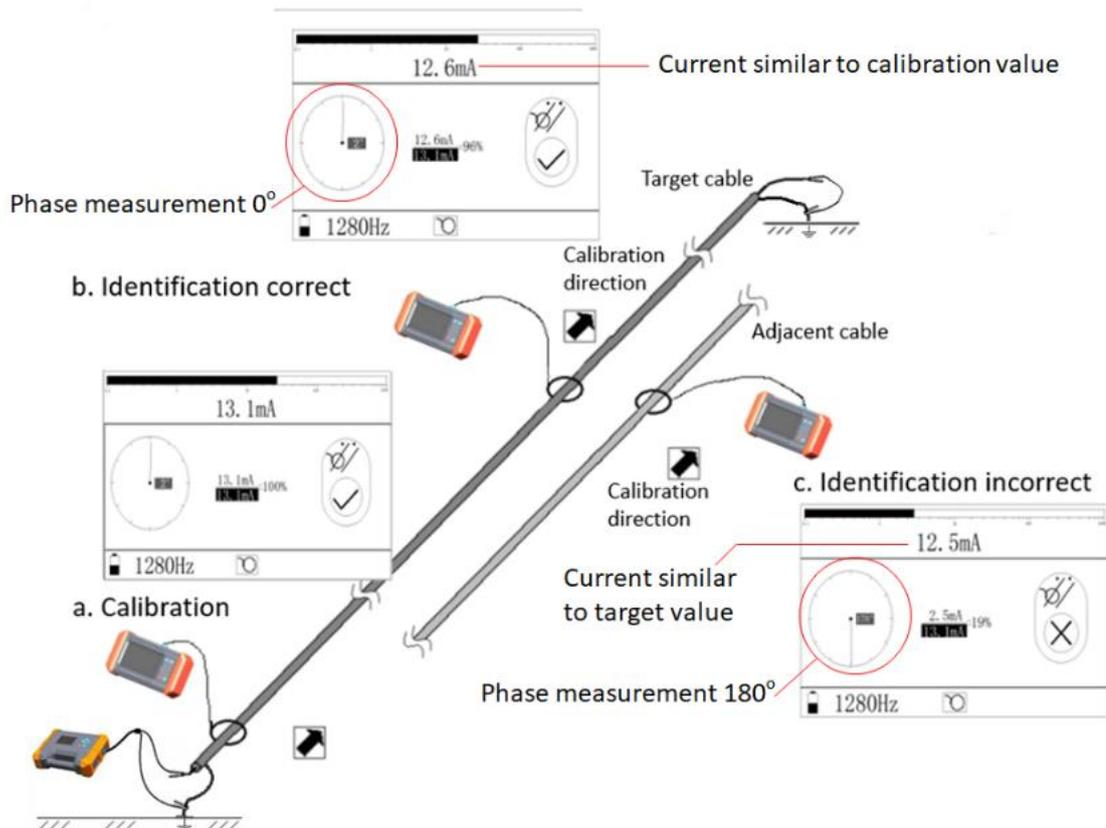

Figure 5.6: Results for three parallel cables with core conductor earth connection
- The second example (Figure 5.6) shows two cables which are in the same path (including the target cable). The measurement result shows the target cable current is  $I$  (in this example 12.6mA) and the phase is near  $0^\circ$ , indicating that the identification is correct. The other adjacent line current is also  $I$ , but this time the phase is near  $180^\circ$  which indicates it is not the target cable. In this case, because the current value is almost the same, it can only be distinguished by the phase, and special attention should be paid to the sensor arrow direction.